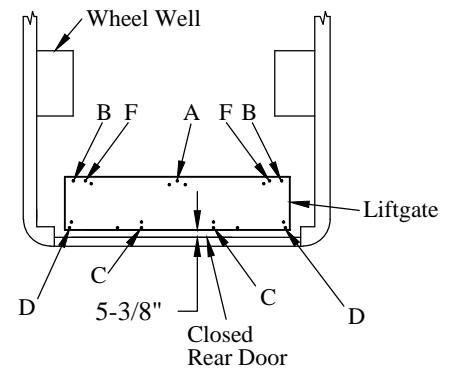

Figure 10: Drilling location (top view).
- 5-3/8" from the closed rear doors at the center (Figure 10).
4. **Insert** base plate bolts into holes in base plate, down through van floor (Figure 10).
- (5) 3/8" x 2" bolts at "A", "C", and "D" locations.